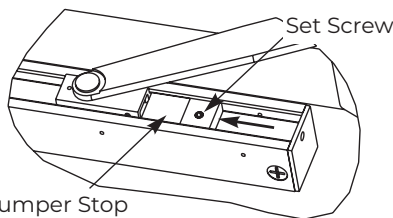

Figure 31
- Tighten set screw in bumper stop so bumper will stay in position. (Figure 31)